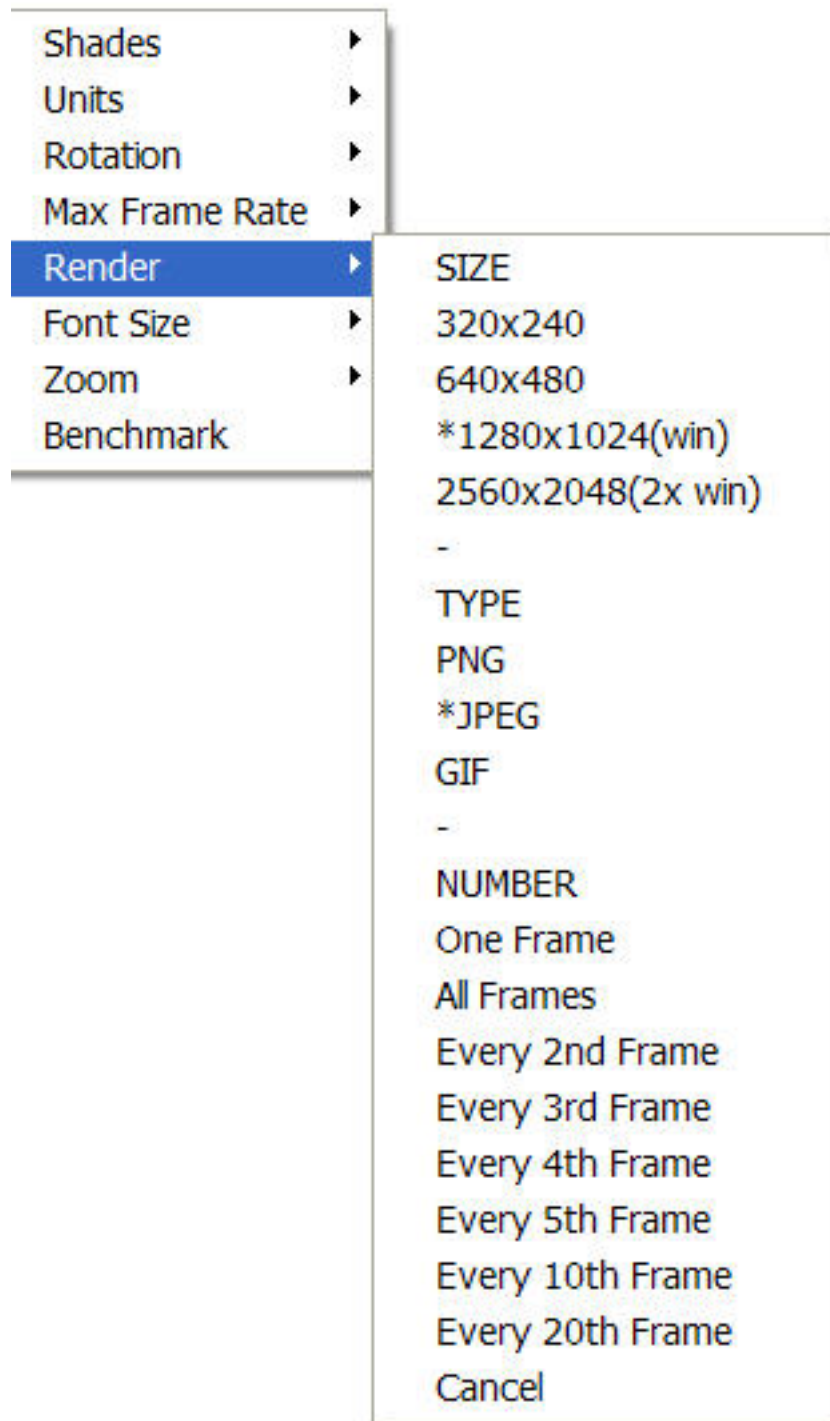

Figure B.7: Render Menu.
The **Render** menu, illustrated in Figure B.7, allows one to create PNG or JPEG image files of the currently displayed scene. The graphics library, GD 2.0.15, was used to create the rendered versions. GD 1.0 is documented in reference [11, Appendix 4]. GD 2.0.7 now creates images using *full color* allowing for more realistic scene representations eliminating the color banding that occurred with the previous version because of the limited number (256) of colors used to represent images. Due to patent disputes, GD 2.0.15 has dropped support for the GIF file format and uses JPEG or PNG instead.